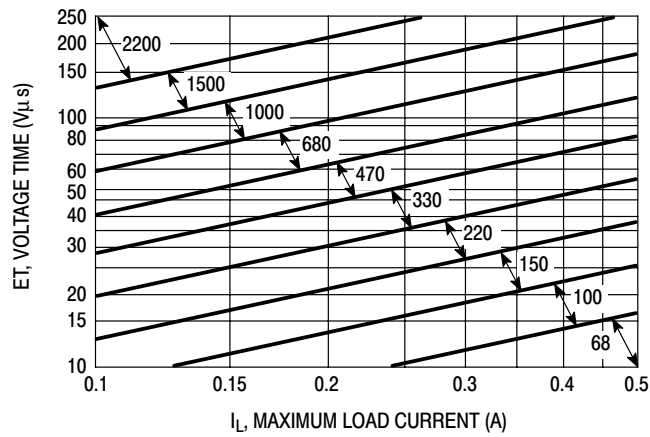

Figure 23. LM2574-ADJ
4. Inductor Selection (L1) A. Use the following formula to calculate the inductor Volt x microsecond [V x μs] constant: $E \times T = (V_{in} - V_{out}) \frac{V_{out}}{V_{in}} \times \frac{10^6}{f_{[Hz]}} [V \times \mu s]$ B. Match the calculated E x T value with the corresponding number on the vertical axis of the Inductor Value Selection Guide shown in Figure 23. This E x T constant is a measure of the energy handling capability of an inductor and is dependent upon the type of core, the core area, the number of turns, and the duty cycle. C. Next step is to identify the inductance region intersected by the E x T value and the maximum load current value on the horizontal axis shown in Figure 27. D. From the inductor code, identify the inductor value. Then select an appropriate inductor from Table 2. The inductor chosen must be rated for a switching frequency of 52 kHz and for a current rating of $1.15 \times I_{Load}$. The inductor current rating can also be determined by calculating the inductor peak current: $I_{p(max)} = I_{Load(max)} + \frac{(V_{in} - V_{out})t_{on}}{2L}$ where t_{on} is the "on" time of the power switch and $t_{on} = \frac{V_{out}}{V_{in}} \times \frac{1.0}{f_{osc}}$ For additional information about the inductor, see the inductor section in the "External Components" section of this data sheet.	4. Inductor Selection (L1) A. Calculate E x T [V x μs] constant : $E \times T = (40 - 24) \times \frac{24}{40} \times \frac{1000}{52} = 105 [V \times \mu s]$ B. $E \times T = 185 [V \times \mu s]$ C. $I_{Load(max)} = 0.4$ A Inductance Region = 1000 D. Proper inductor value = 1000 μH Choose the inductor from Table 2.